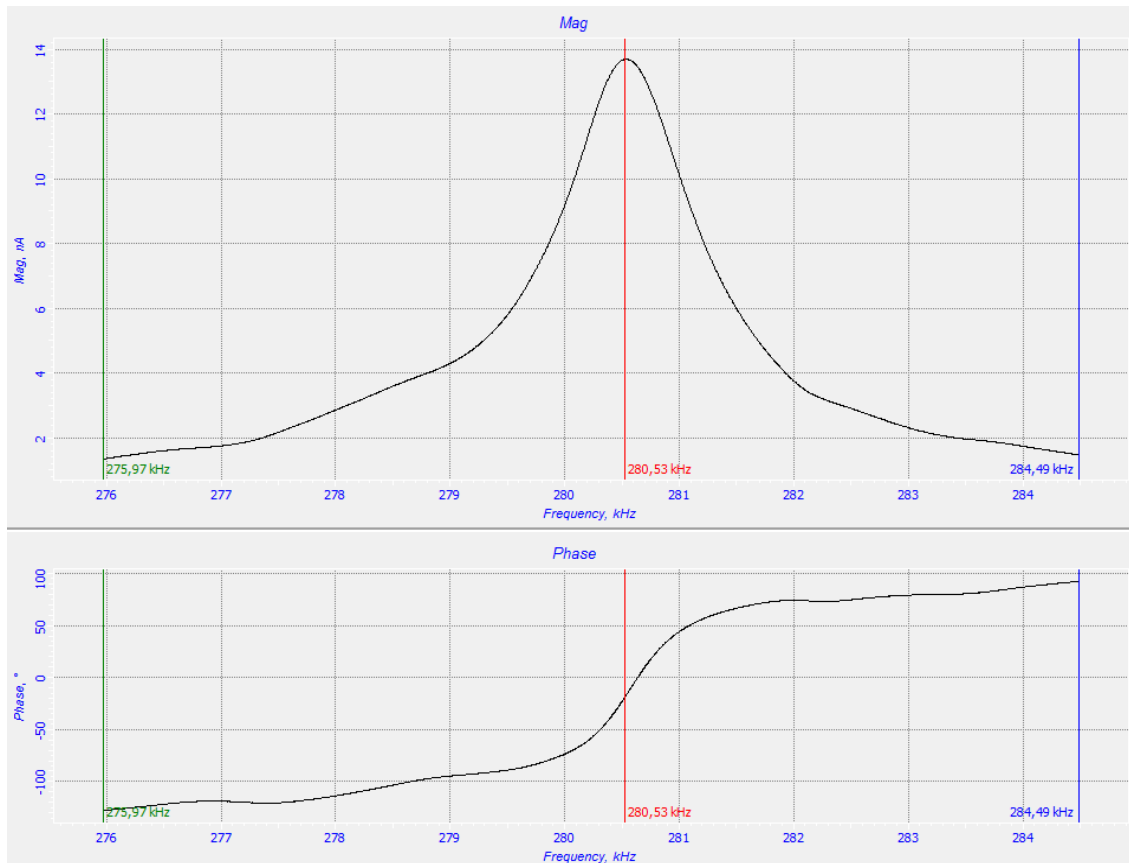

Fig. 8-7
8. Adjust the generator working frequency at the maximum frequency of the resonance peak by moving the red marker to the position at which the **Mag** signal achieves its maximum in the vicinity of the selected peak (Fig. 8-7).